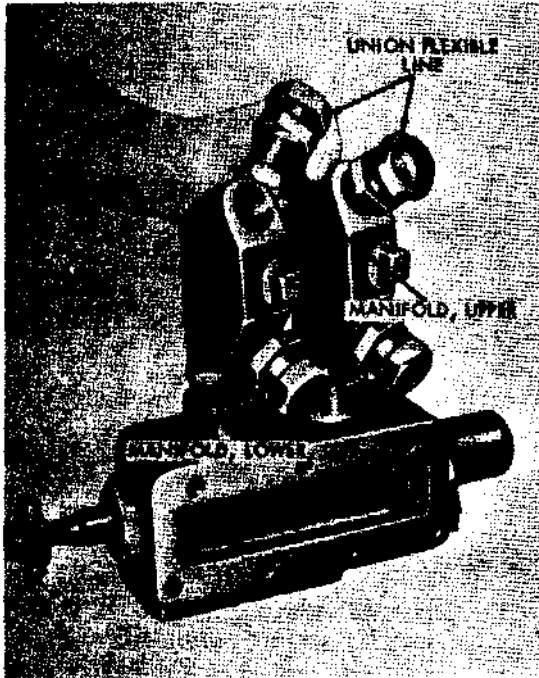
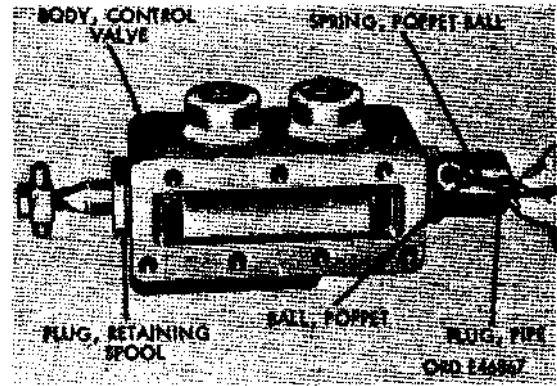

Figure 97. Disassembling manifolds from control valve body
Figure 98. Removing poppet ball
- (1) Remove upper and lower manifolds.
- (a) Remove the two flexible line unions from the lower manifold and the two unions from the upper manifold (fig. 97).
- (b) Remove the upper and lower manifolds from control valve body (fig. 97).
- (2) Remove the control valve end cap.
- (a) Remove the pipe plug, poppet ball spring, and poppet ball (fig. 98) from control valve end cap.
- (b) Install poppet ball, poppet ball spring, and pipe plug (fig. 98) in control valve end cap.
(4) Install upper and lower manifolds.**(a) Install upper and lower manifolds in control valve body (fig. 97).****(b) Install two flexible line unions (fig. 97) in upper manifold, and two unions in lower manifold.****84. Hydraulic Cylinder**
a. Disassembly. Because of the welded construction of the hydraulic cylinder assembly, disassembly is limited to the procedure given in steps (1) through (6) below.